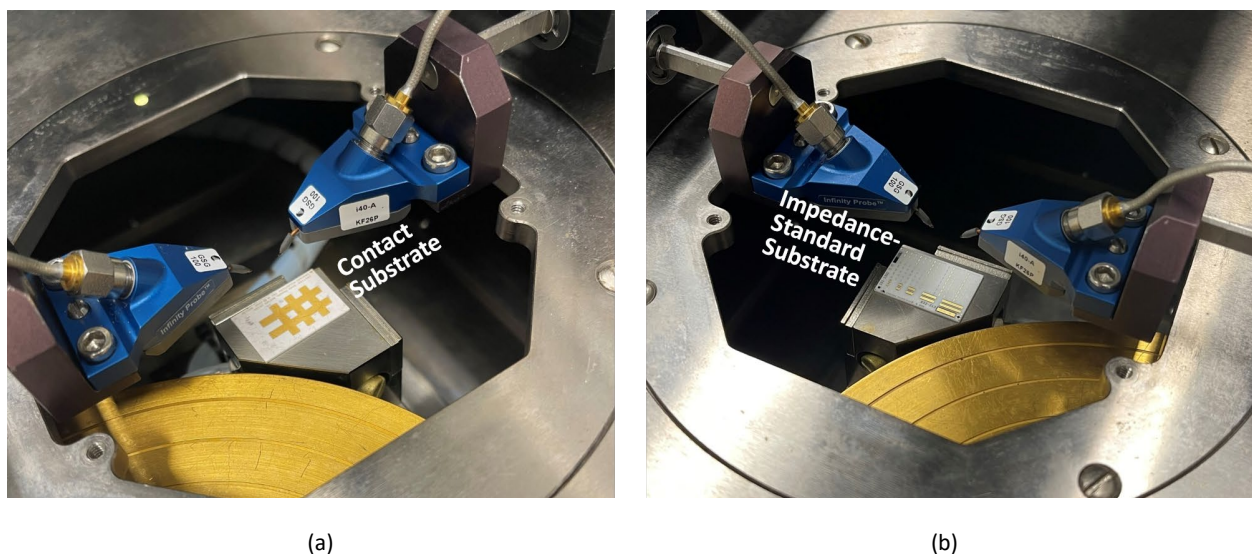

Fig. 4.1. (b) Contact substrate and (a) impedance-standard substrate (ISS) on right and left auxiliary chucks, respectively.
- 4.2 Use the x- and y-controls of the wafer chuck to move it left and out to reveal the contact substrate on the right auxiliary chuck [Fig. 4.1(a)]. Make sure the edges of the contact substrate are pushed squarely against top and side ledges of the auxiliary chuck, which aligns it with the x- and y-axes of the wafer chuck.
- 5.2 Move the chuck right and out until you can see the ISS on the left auxiliary chuck [Fig. 4.1(b)].